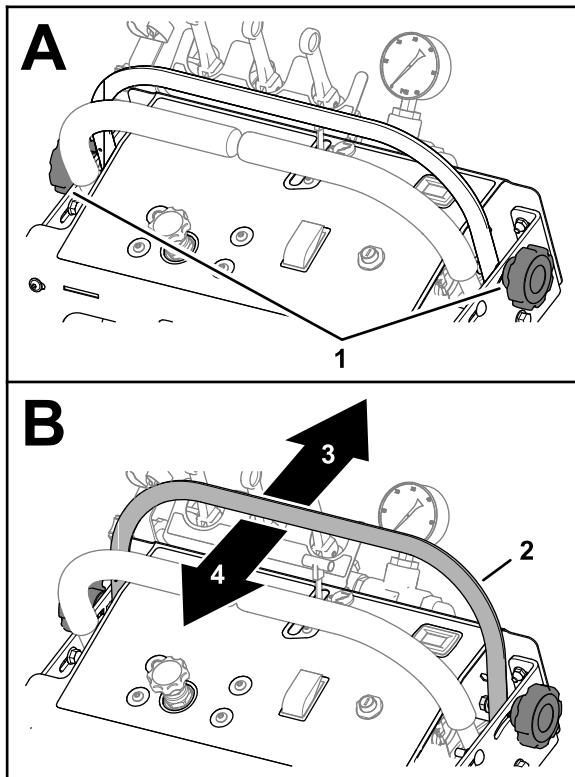

Figure 94
2. Loosen the 2 knobs that secure the speed bar (Figure 94).
4. Tighten the 2 knobs that secure the speed bar (Figure 94).